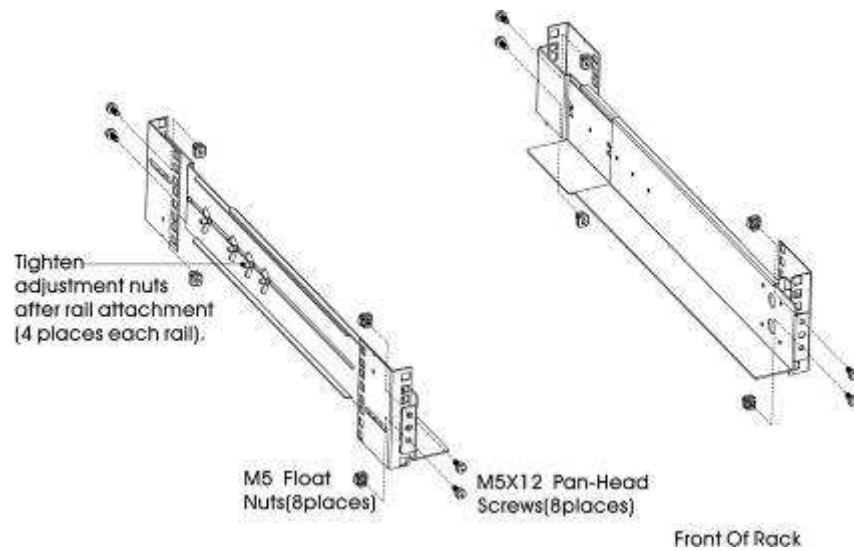

Figure5 Fixing the Rails
2. Select the proper size in the rack for positioning the UPS (see Figure 5). The rail occupies four positions on the front and rear of the rack.